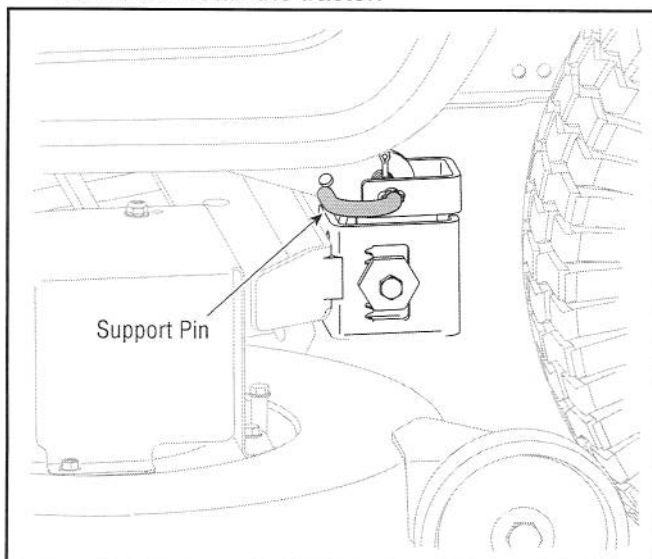

Figure 21
- Pull the deck support pin outward to release the deck from the deck lift arm. See Figure 21.